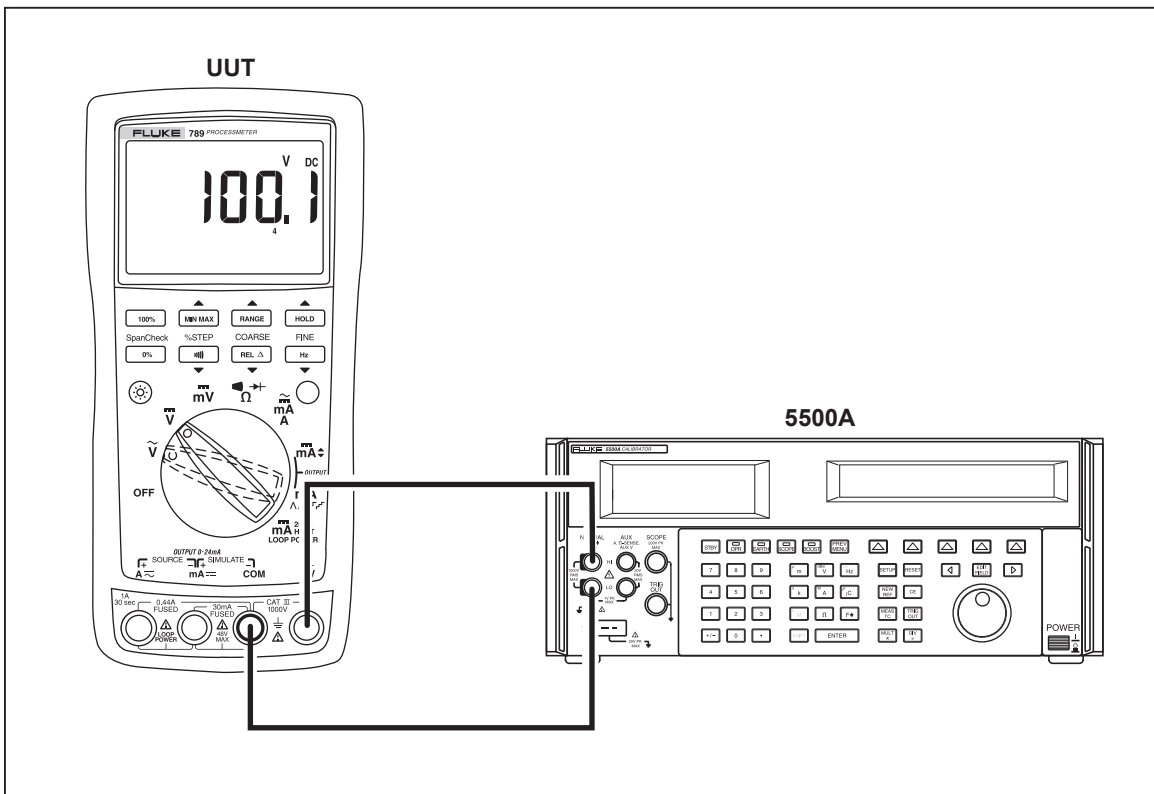

Figure 9. AC/DC Voltage Measurement Test Connections
3. Connect the calibrator to the **COM** and \bar{V} terminals on the UUT as shown in Figure 9.
3. Connect the calibrator to the COM and ΩV^+ terminals on the UUT as shown in Figure 9.